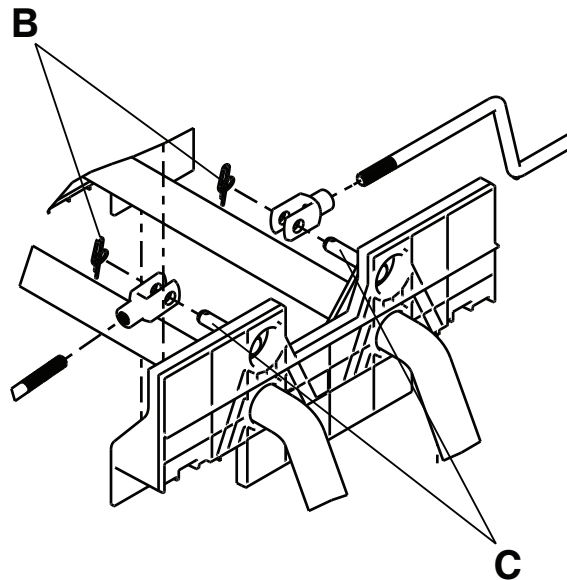

Figure 19 – Remove rue ring cotters from studs
6. Using needle nose pliers, remove the rue ring cotters (B) from the studs (C) on the side control release pedal weldment (Figure 19).